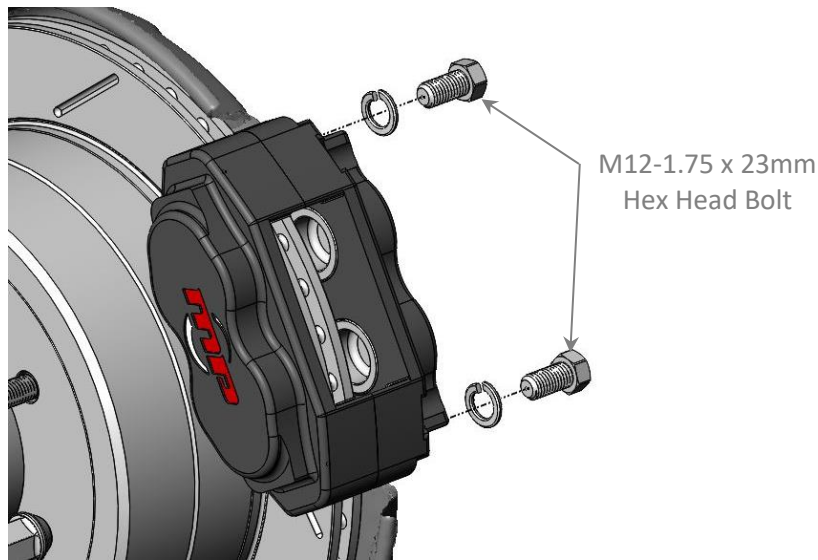

Figure 3 – Caliper Installation (RH Shown)
- Next, **remove the brake pads** and place the brake caliper onto the OEM brake caliper mount, securing it with the supplied M12-1.75 x 23mm Hex Head Bolts and M12 Split Lock Washers. **Only snug the bolts now to allow for future caliper shimming process.** Refer to Figure 3 on the next page for reference.